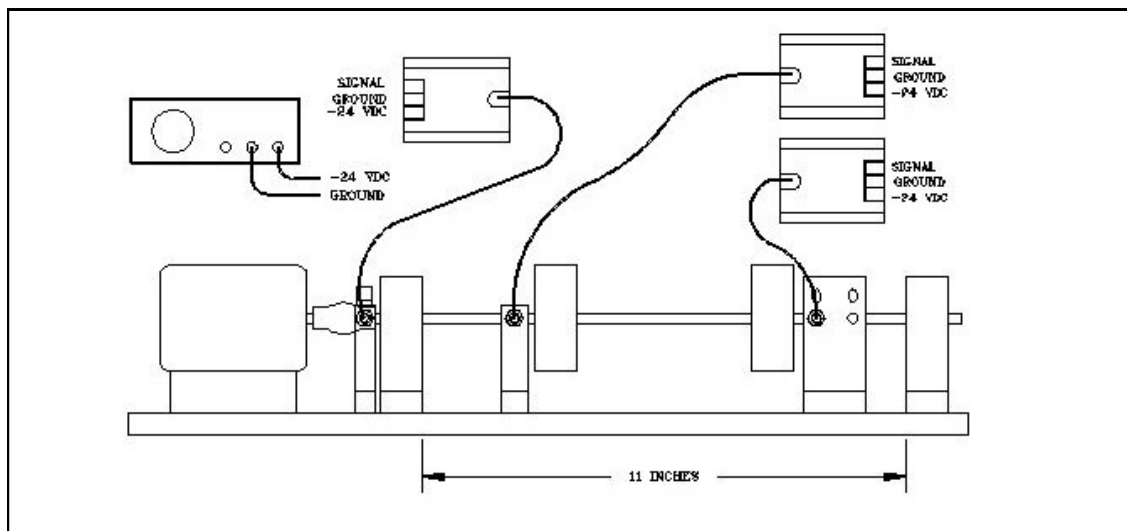

Fig. 11.4
Assemble the demonstration rotor using two (2) rotor masses, two (2) probes, one (1) Phase pickup, and two (2) sleeve bearing assemblies, as shown in Figure 11.4. Position the rotor masses so that they are equally spaced within the bearing span. Install the vibration transducers in the horizontal orientation and position them to view the rotor shaft outboard of each rotor mass. The Phase transducer and the vibration transducer should be position on the same side of the rotor. Rotate the rotor masses so that the 0° engraved marks are lined up with the coupling key.